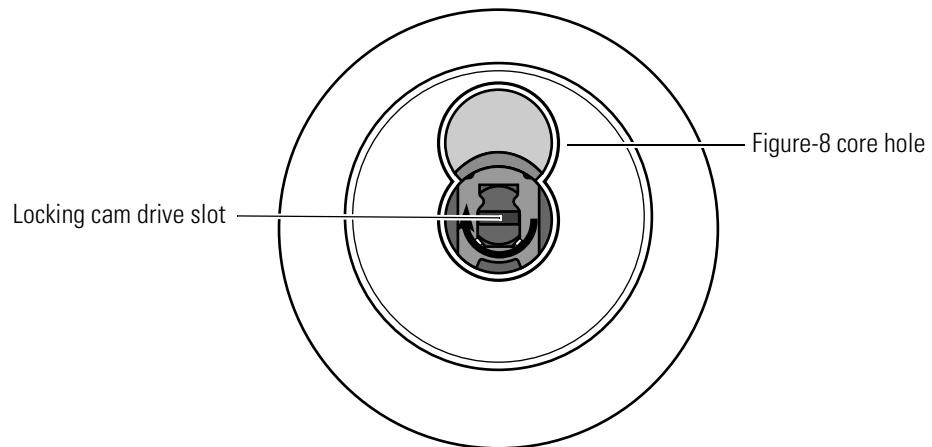

Figure 3.27 Correct position of the G function locking cam
- Before you install the core and throw member, you can see that the locking cam is not positioned as shown in Figure 3.27. Perform the following steps to reposition the locking cam.
1. Looking through the figure-8 core hole in either knob, turn the locking cam drive slot to match the position shown in Figure 3.27.
4. Turn the drive slot clockwise to match the position shown in Figure 3.27.